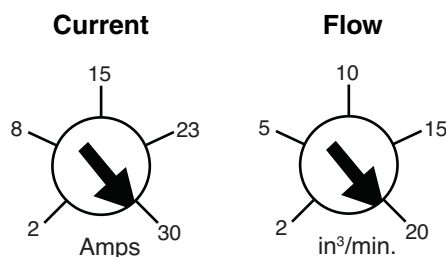

**FIG. 9**
1. Remove screws (a), cover (b) and gasket (c) to access the control board (FIG. 9).